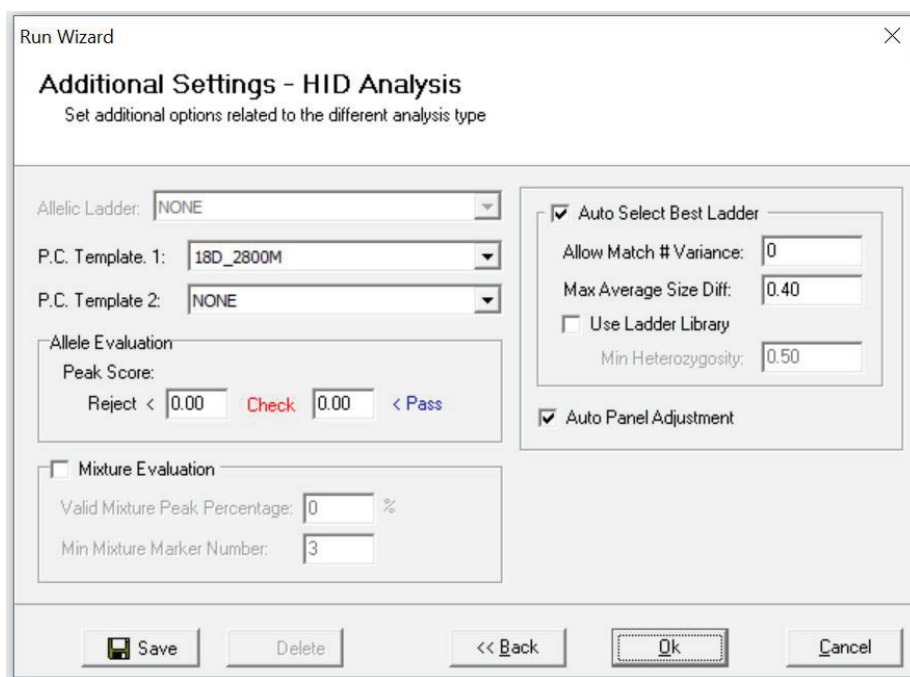

Figure 30. The 'Additional Settings' window.
- The 'Additional Settings' window will appear (Figure 30). Select **18D_2800M** as the P.C. Template 1 and verify that the boxes are checked for "Auto Select Best Ladder" and "Auto Panel Adjust". The values displayed in the 'Allele Evaluation' dialogue box are defaults and will affect the quality values displayed in the plot settings. For more information on quality values, use of a second positive control and mixture evaluation, refer to the *GeneMarker®HID Software for Spectrum CE Systems User Manual #TM555*. Select **OK** to analyze the raw data.